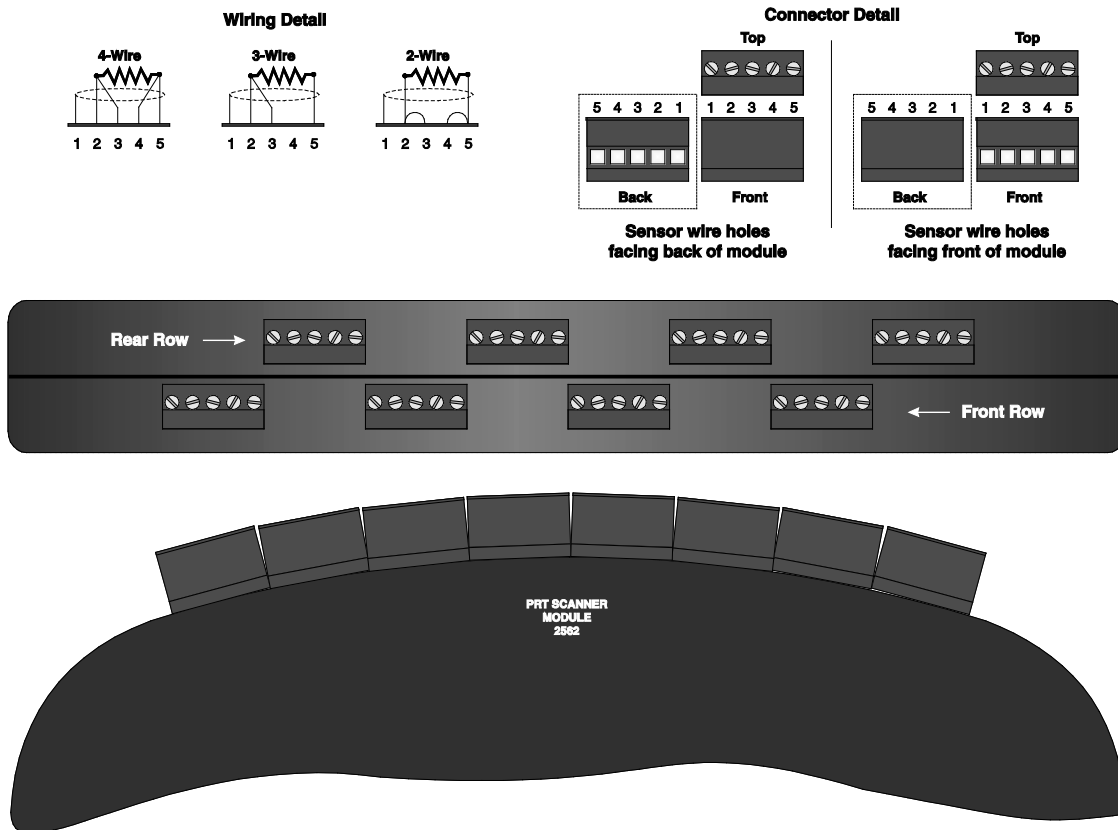

Figure 17. Thermistor Scanner Module Sensor Wiring Detail
Four-wire sensors are connected as shown in Figure 17. The shield, if used, is connected to pin 1 on the left. One pair of wires connects to pins 2 and 3. The opposite pair of wires connects to pins 4 and 5. Pins 2 and 5 source current and pins 3 and 4 sense potential. When using four-wire sensors be sure to check that the wiring configuration for that row is set to 4 as explained above!
*There are two types of sensor connectors. One has the wire holes facing the front of the module and one has the wire holes facing the back of the module as shown in the connector details in Figure 17.*
Three-wire sensors are connected as shown in Figure 17. The shield, if used, is connected to pin 1 on the left. One pair of wires connects to pins 2 and 3. The opposite wire connects to pin 5. Pin 4 is left unconnected. Pins 2 and 5 source current. The potential is also sensed at pins 2 and 5 while the potential at pin 3 is used to compensate for the lead resistance of wires 2 and 5. Be sure to check that the wiring configuration for that row is set to 3 as explained above! Two-wire sensors are connected as shown in Figure 17. The shield, if used, is connected to pin 1 on the left. One wire connects both pins 2 and 3. The opposite wire connects to both pins 4 and 5. Be sure to check that the wiring configuration for that row is set to 4 as explained above! When using two-wire sensors the 2564 is unable to compensate for lead resistance.